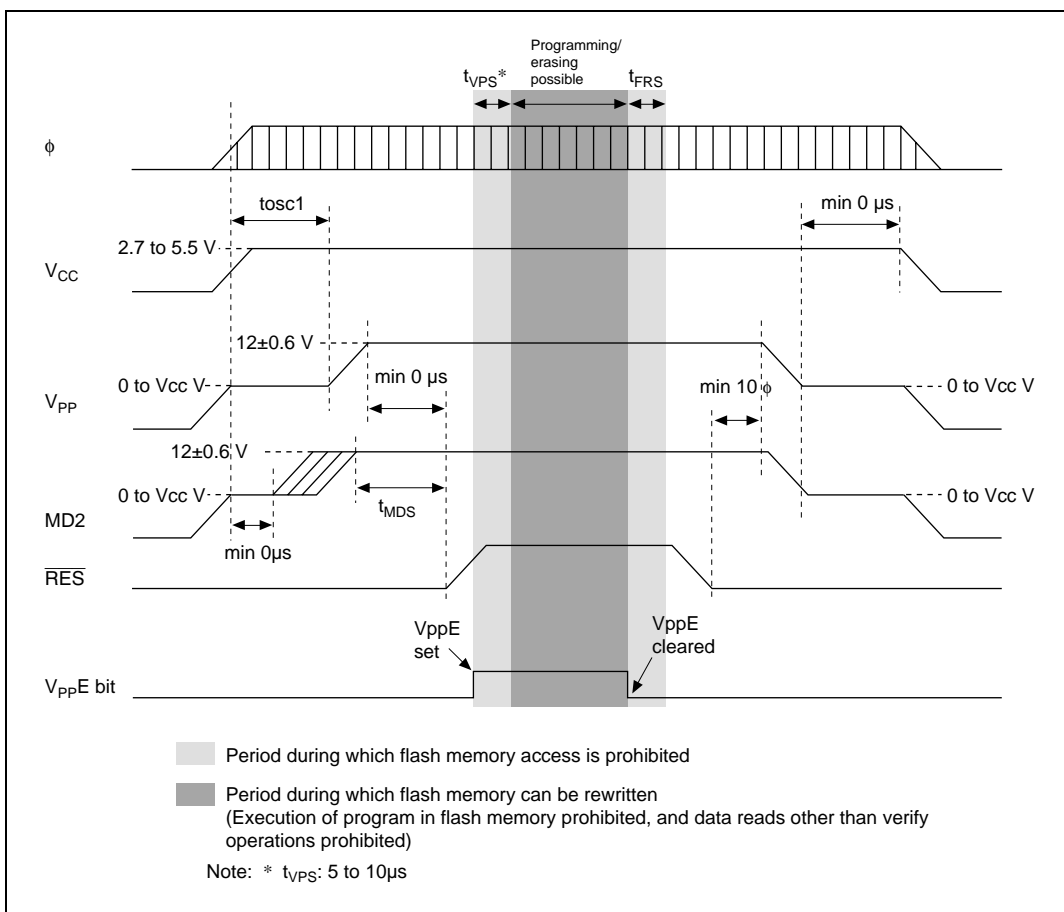

Figure 19.22 Power-On and Power-Off Timing (Boot Mode)
(2) Before programming, check that the chip is correctly mounted in the PROM programmer. Overcurrent damage to the device can result if the index marks on the PROM programmer socket, socket adapter, and chip are not correctly aligned.
(3) Don't touch the socket adapter or chip while programming. Touching either of these can cause contact faults and write errors.
(4) Precautions in turning the programming voltage (V_{PP}) on and off (see figures 19.22 to 19.24):